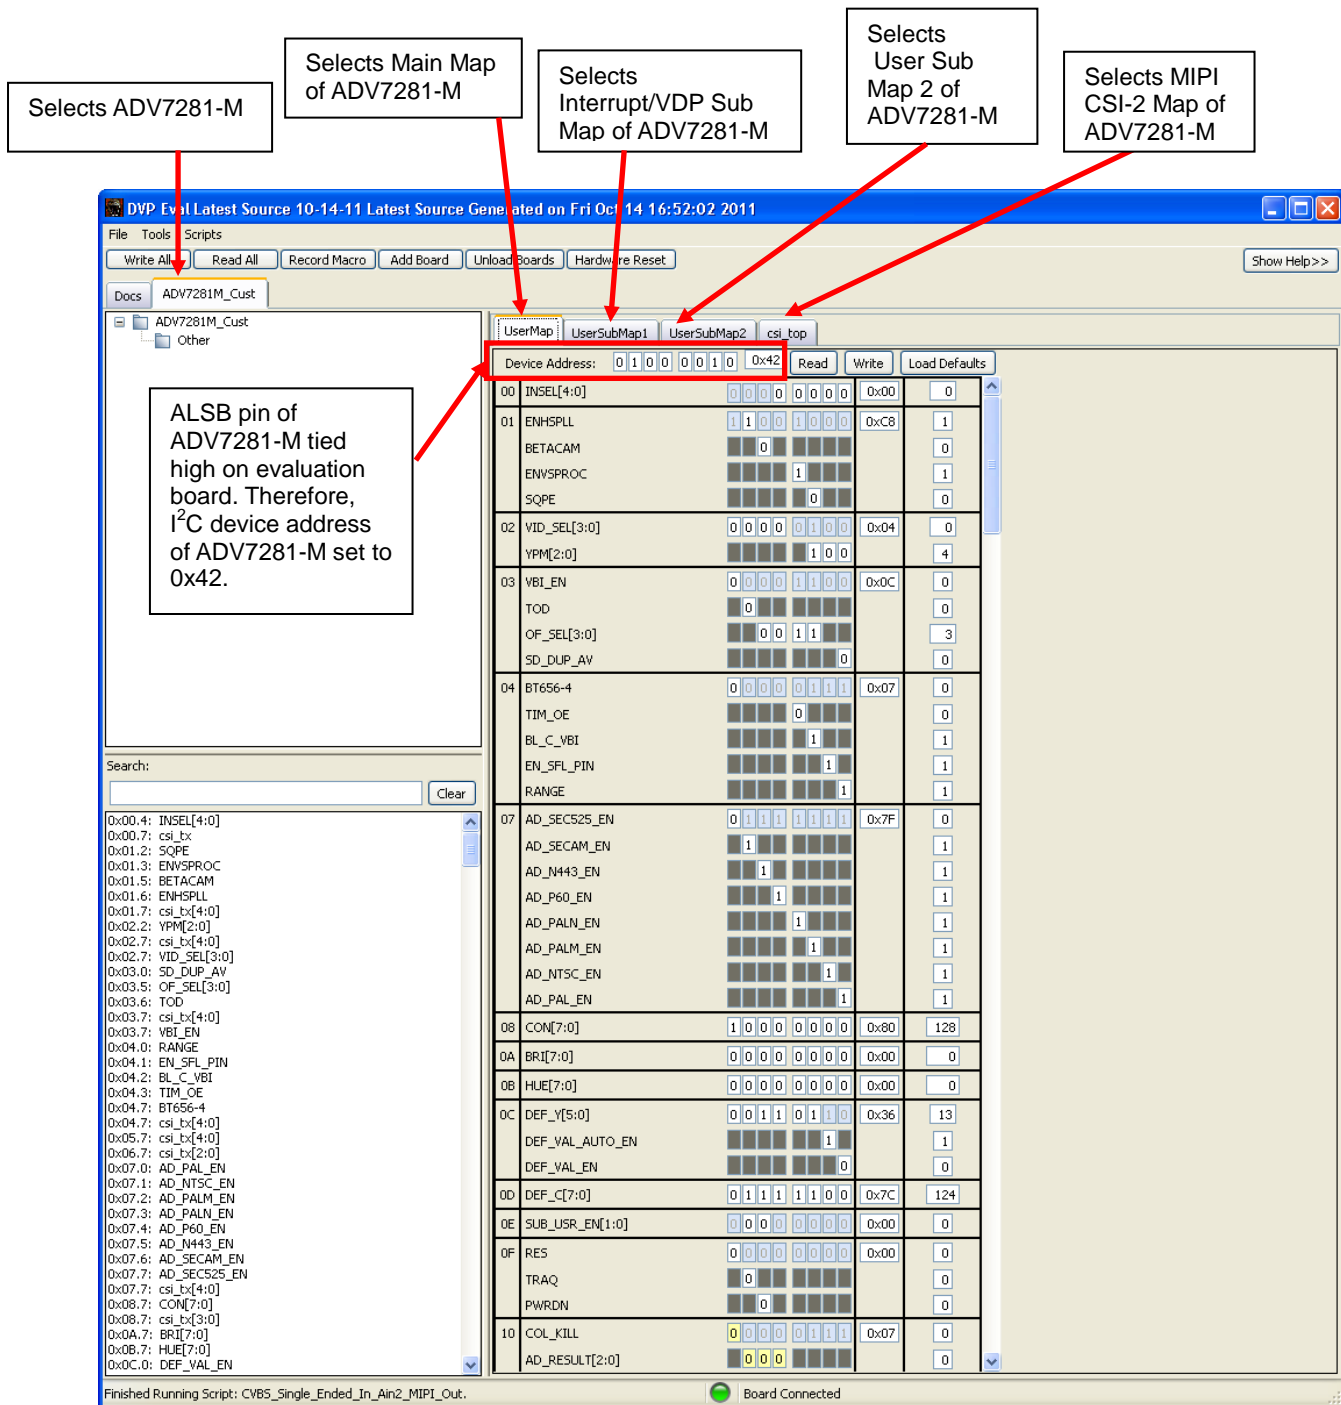

Figure 6. DVP Eval Program After Loading ADV7281-M Board
6. Press the **Load** button. A window similar to that shown in Figure 6 appears.